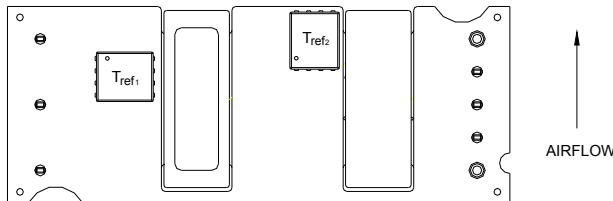
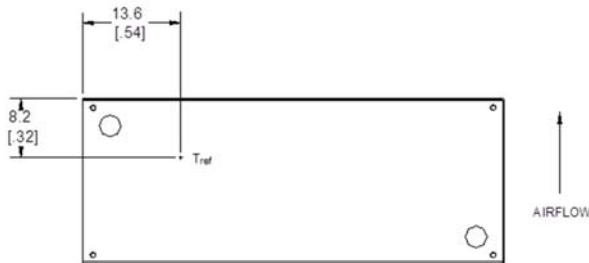

Figure 13.  $T_{ref}$  Temperature Measurement Locations for Open Frame Module.
Figure 14.  $T_{ref}$  Temperature Measurement Location for Module with Heatplate.
To provide protection under certain fault conditions, the unit is equipped with a thermal shutdown circuit. The unit will shutdown if the thermal reference points,  $T_{ref}$ , exceed 135 °C (Figure 13, typical) or 120 °C (Figure 14, typical) respectively, but the thermal shutdown is not intended as a guarantee that the unit will survive temperatures beyond its rating. The module will automatically restart upon cool-down to a safe temperature.
The thermal reference points,  $T_{ref1}$ , and  $T_{ref2}$  used in the specifications for open frame modules are shown in Figure 13. For reliable operation these temperatures should not exceed 124 °C & 121 °C respectively
The thermal reference point,  $T_{ref}$ , used in the specifications for modules with heatplate is shown in Figure 14. For reliable operation this temperature should not exceed 98 °C.